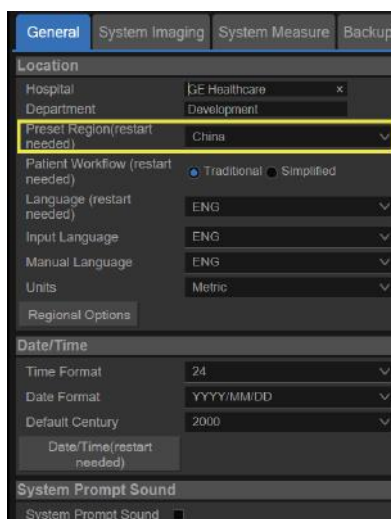

Figure 6-1. Region Preset
- In Utility--> System--> General, select the correct region from Preset Region (restart needed), refer to Figure 6-1 on page 6-4.